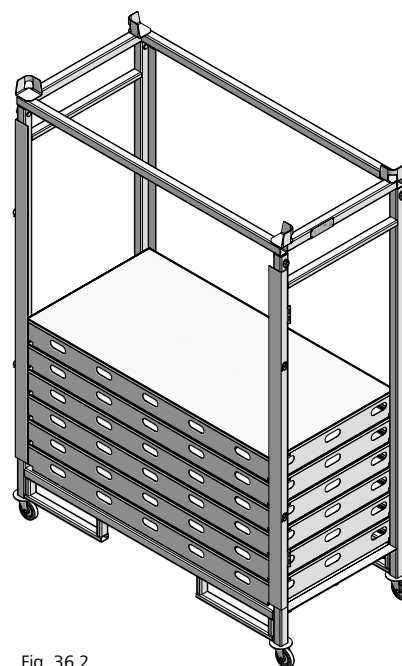

Fig. 36.2
- Transport on castors at ground level. The MD transport rack can also be equipped with four swivel-type castors 100 (Ref. No. 29-305-95). They must be inserted into the side frames of the empty rack. This increases the overall height by 12 cm from 231.5 cm to 243.5 cm (Fig. 36.2).